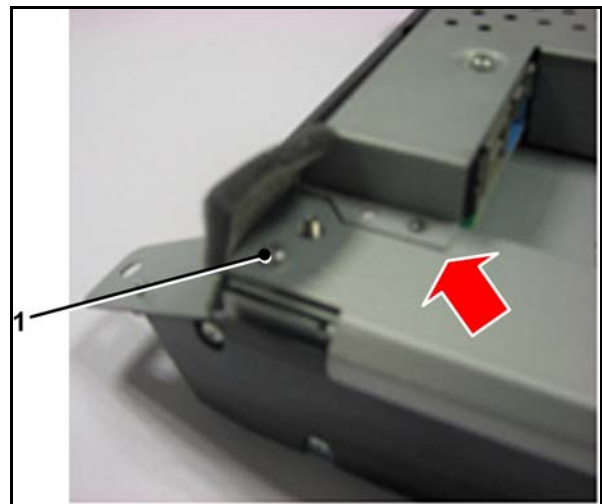

Figure 25
32. Put the bottom bracket back into its position and install the M3 screw (1) (see Figure 25).